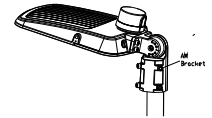

Figure 14
- Step 2: Place the bracket into the pole and lock the four bolts.(Figure 14)